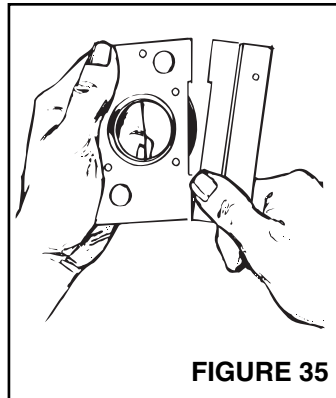

FIGURE 35
2. Refer to Figure 35. Break off nail plate at scored line.